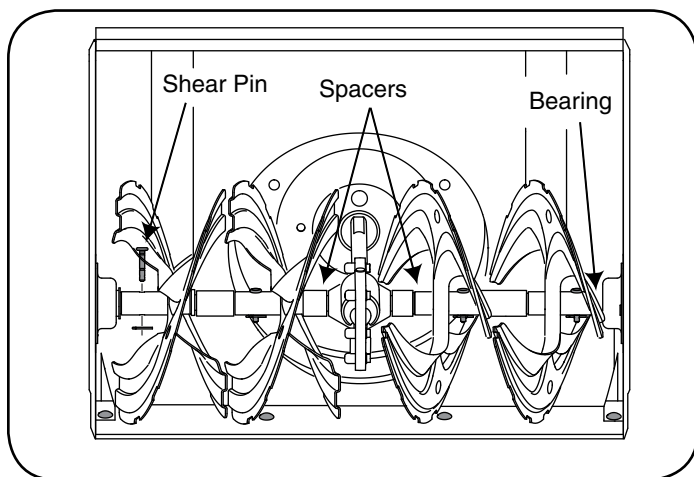

Figure 10
4. **Auger Shaft:** At least once a season, remove the shear pins on auger shaft. Spray lubricant inside shaft, around the spacers. Also lubricate the flange bearings found at either end of the shaft. See Figure 10.
The augers are secured to the spiral shaft with two shear pins and cotter pins. See Figure 10. If you hit a foreign object or ice jam, the snow thrower is designed so that the pins may shear.